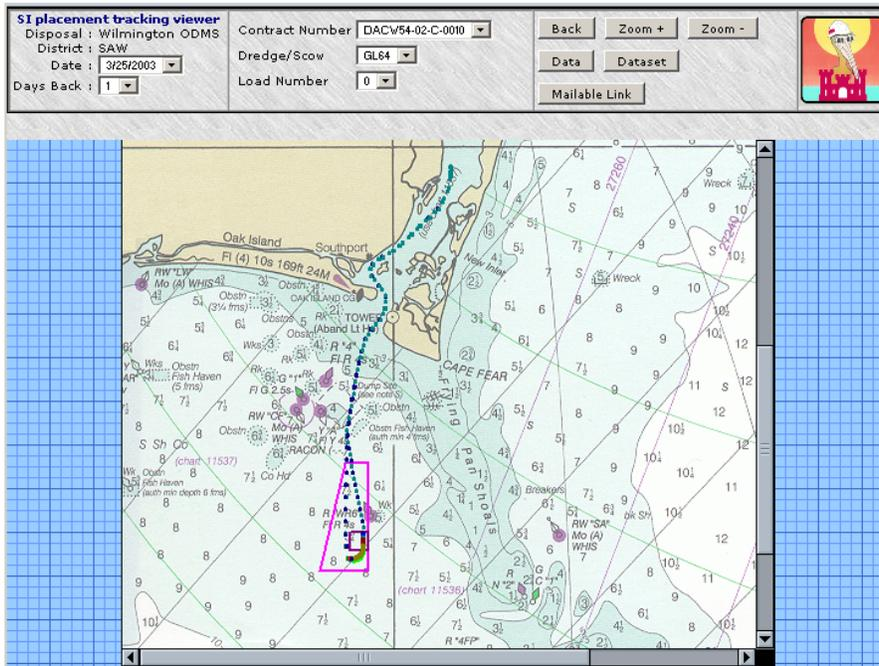

Figure 4.4 Track Plot
4. In the tracking viewer screen, select the contract number, dredge, and load number from the pull-down menu located in the upper center screen. Click *submit* located in the upper right-hand corner of the tracking viewer. The track-plot will then appear as in Figure 4.4.